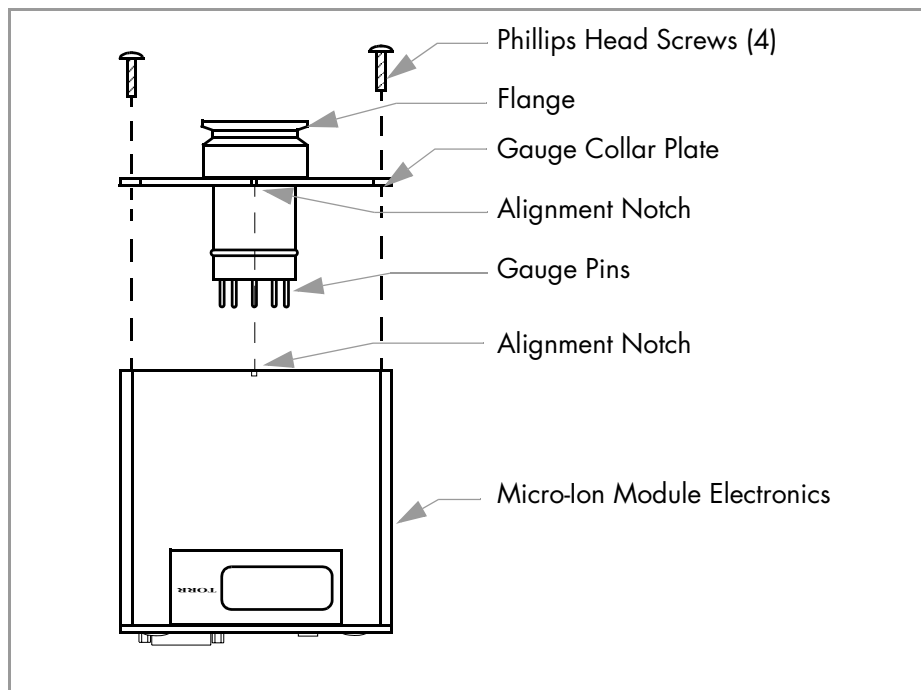

Figure 4-1 Micro-Ion Gauge Removal.
- A chamber bake to 100 to 150 °C is often required. When baking the chamber, be sure the temperature of the tube and the vacuum plumbing to the tube is raised at least as much as the chamber. The electronics module must be removed from the gauge if the bake-out temperature exceeds 70 °C. This can be done without breaking vacuum by removing the four screws securing the front plate to the aluminum extrusion enclosure. Pull the module away from the plate after the 4 screws are removed. The plate will stay attached to the tube (see Figure 4-1 on page 28). Do not exceed 200 °C.
4. Remove the four Phillips head screws from the gauge collar plate as shown in Figure 4-1.
5. While holding the flange, **gently** pull the Micro-Ion Vacuum Gauge Module away from the gauge collar plate as shown in Figure 4-1. The gauge tube and plate will disconnect from the module.